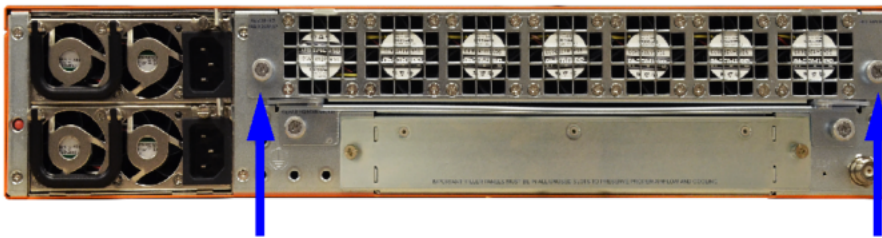

Figure 6: Fan Tray Screw Location on GigaVUE-HC2 Rear
1. Locate the two screws on either side of the fan tray as shown in Figure 6: Fan Tray Screw Location on GigaVUE-HC2 Rear.